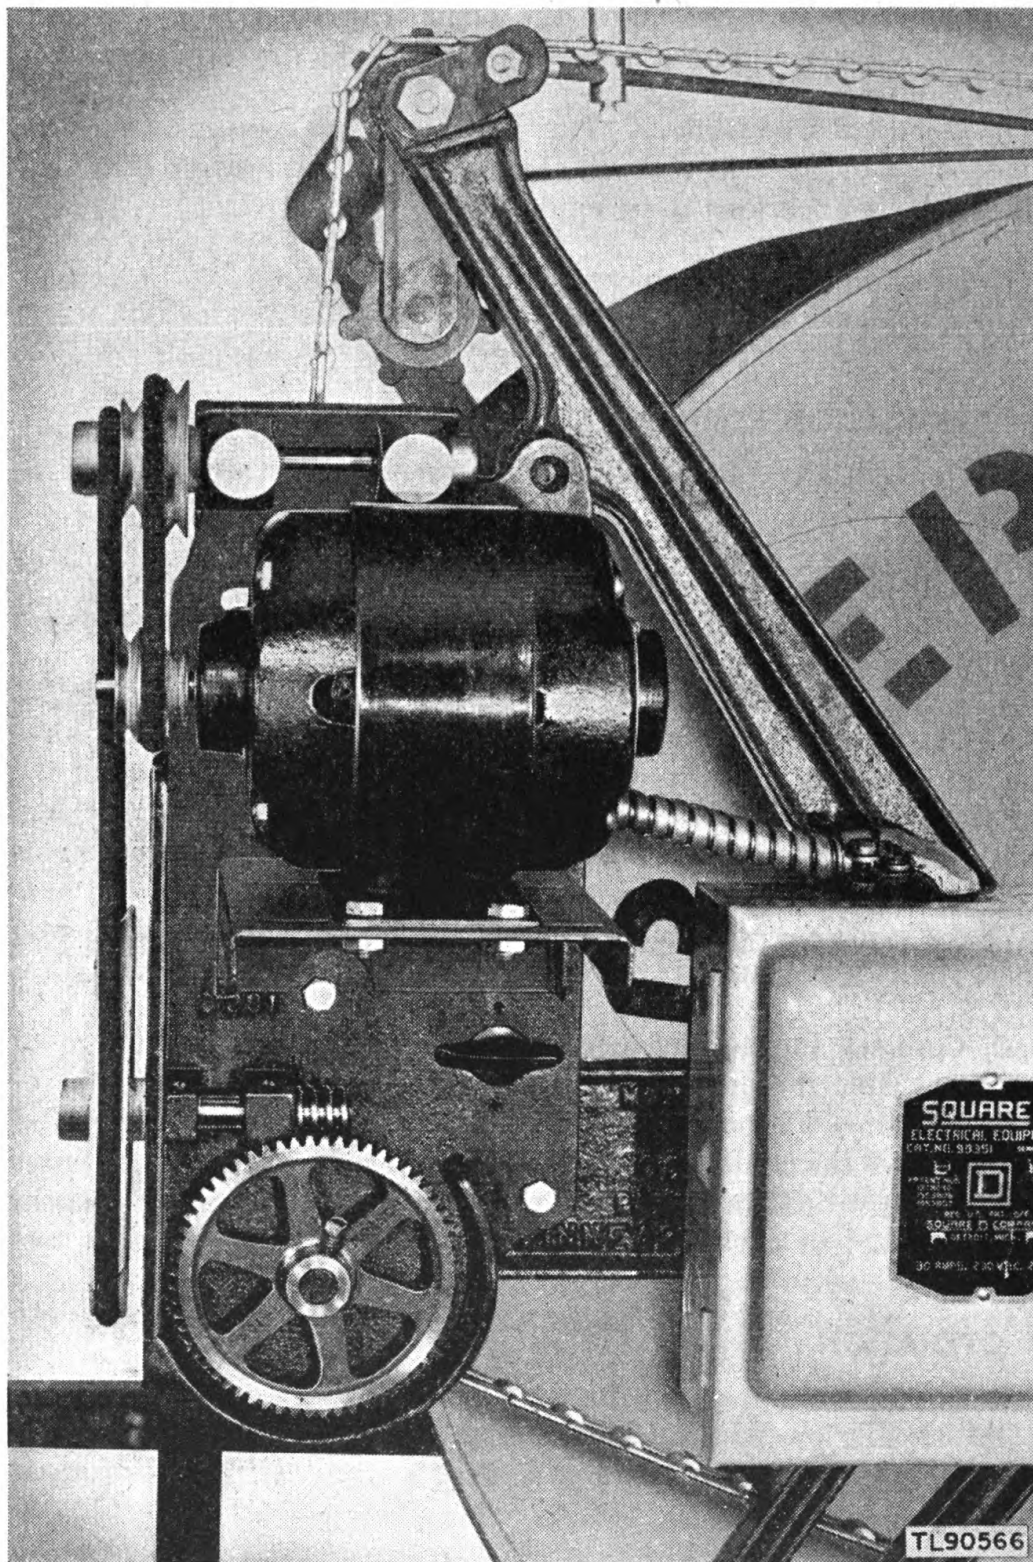
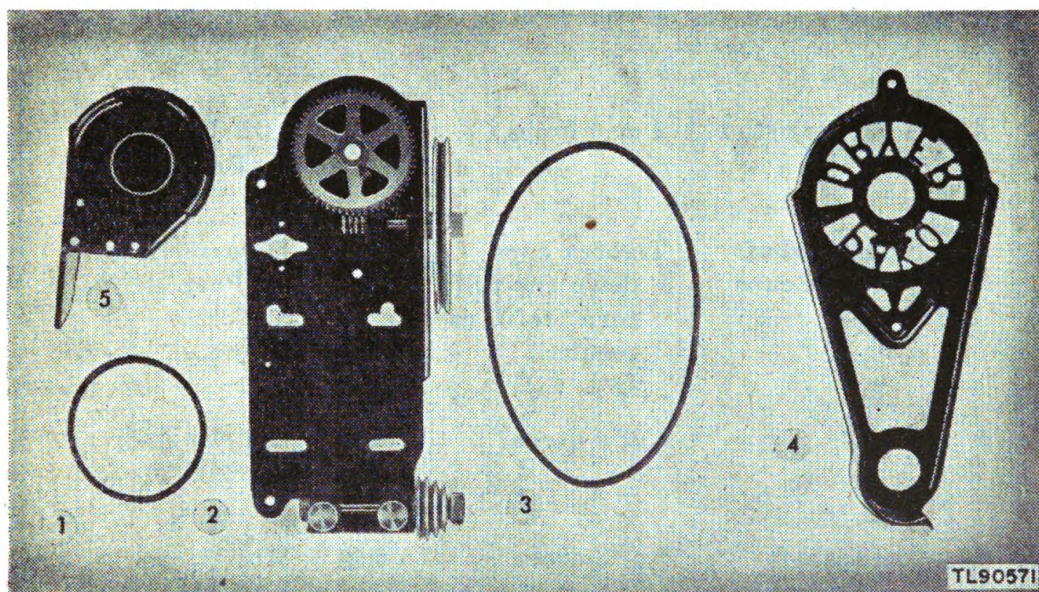

Figure 6. Power unit assembly, side view.
Figure 10. Gear reduction system, disassembled.
i. Power Unit Assembly (fig. 6). The power unit assembly uses a gear train to adapt the speed of the alternating-current motor to the operating speed of the drum. The alternating-current motor
e. Motor. Bolt the motor shelf casting to the bracket casting with the two bolts. Then bolt the motor to the shelf with the four bolts from the cloth bag (fig. 6). Be sure that the cone pulleys on the countershaft and the motor shaft are aligned with each other. Place the short belt (fig. 10 ①) over either the first, second, or third pair of grooves in the two cone pulleys.
e. Worm and Main Gear. The worm and main gear (fig. 10 ②) located under the gear cover on the motor bracket should be inspected for wear every 6 months. Make the inspection when the cover (fig. 10 ④) is removed for lubrication. Replacement of the worm-shaft assembly and main gear is advisable when the teeth are worn in half.